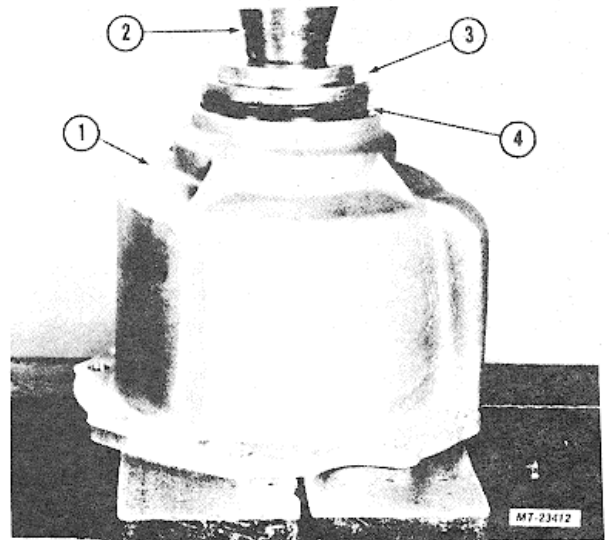

Fig. 42. Installing Inter-Axle Diff Cover oil Seal
9. Press oil seal into diff cover (see Fig. 42). Press oil seal into cover until outer face of seal is flush with end of cover.